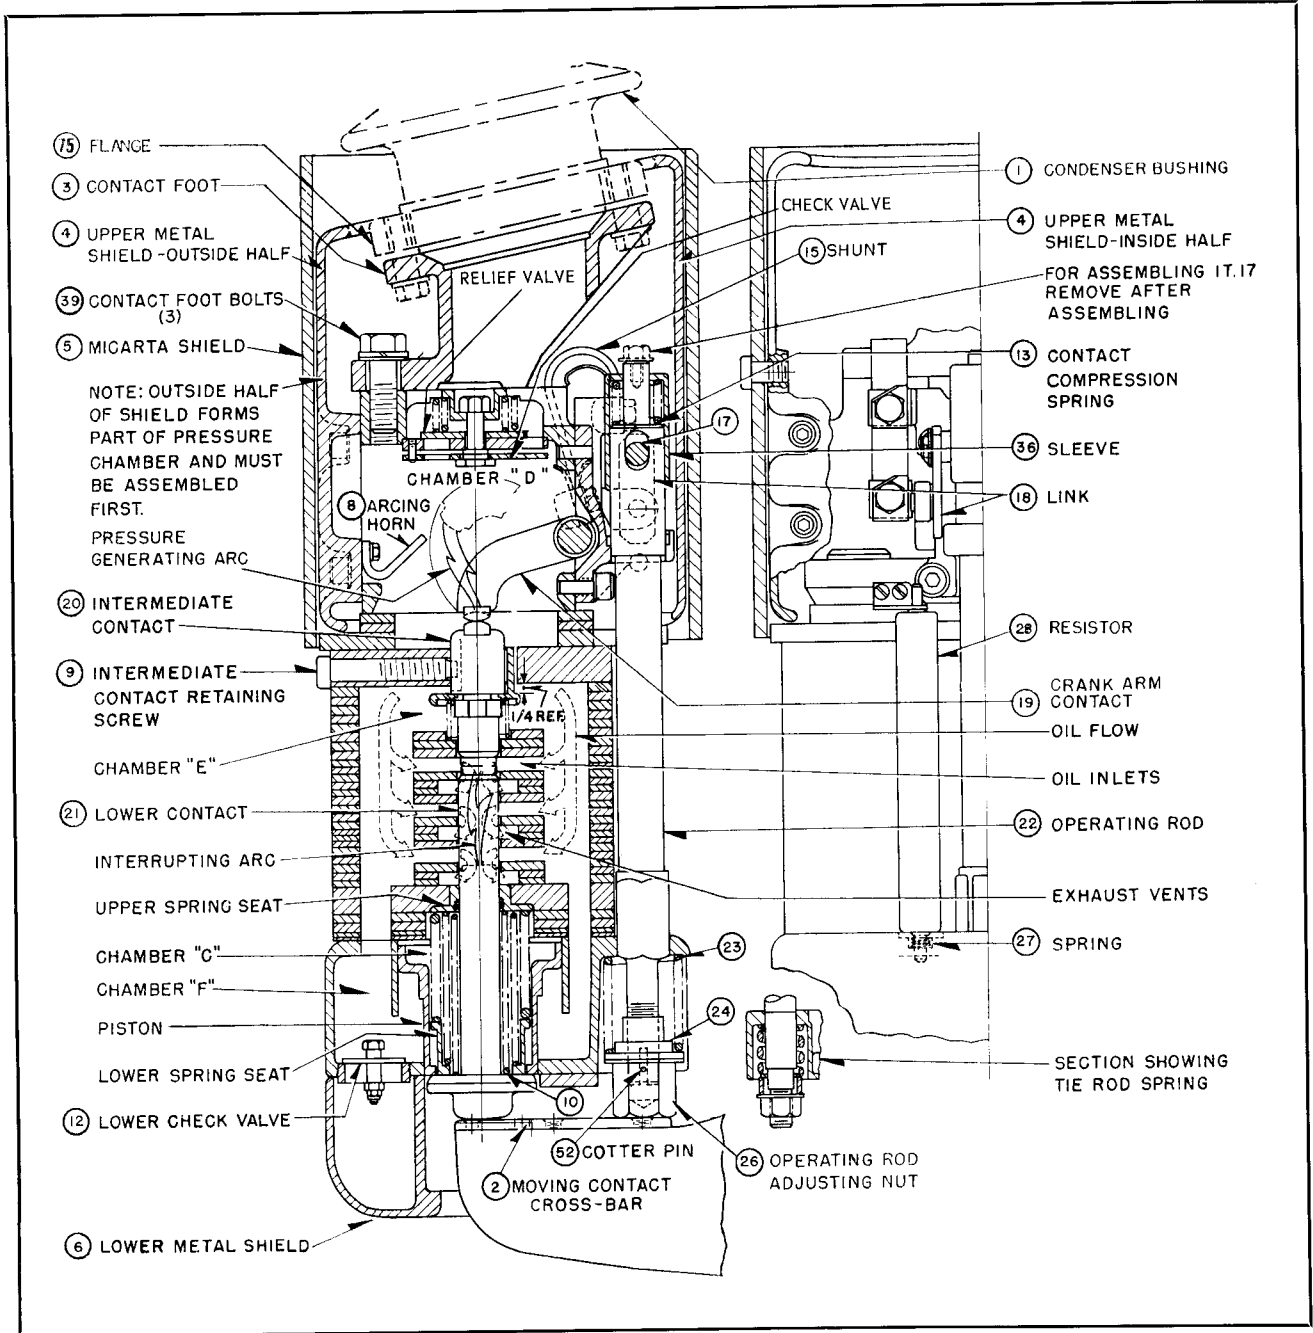

FIG. 17. Stationary Contact Assembly
The contact assembly shown in Fig. 17 consists of one interrupting unit per terminal (2 per pole) and a moving contact to bridge the two interrupters and complete the circuit.
Note: The numbers in the text refer to items shown in Fig. 17.
The oil passages may be seen on Fig. 17. The oil is forced into chamber "E" through passages (not shown) in the thick grid plate which guides the intermediate contact, and from there down either side of the grid into inlets on each side of the arc path as shown. The oil flow along the arc path de-ionizes the arc, and the arc products pass out of the grid through vents on either side of the grid. The position of the vents is staggered in height with respect to the inlets and are located 90 degrees around the grid. The name of this interrupter "Multi-Flow De-ion Grid" is readily apparent from this description—the interruption is due to the flow
Downward movement of the piston forces oil from chamber "F", up the oil passages on either side of the grid and into the inlets. Upward movement of the piston when the breaker closes tends to reduce the pressure in chamber "F" which allows refilling of oil through valve (12). Although the lower shield (6) appears to form a closed chamber in the section shown on Fig. 17, actually it is freely vented to the breaker tank. Chamber "C" on the inside of the piston also communicates freely with the tank through a passage not visible on Fig. 17, in order to permit unrestrained movement of the piston.
The mechanical operation of the contacts may best be observed by examining a closing operation. (See Fig. 17.) The moving contact (2) first picks up the lower contact (21) to establish the resistor circuit, and also picks up the lower spring seat. Further movement picks up the operating rod (22) and piston in that order. As the operating rod moves upward, the hinged crank arm contact (19) moves downward until it touches the intermediate contact (20). At this point the intermediate contact is in its extreme upper position (closed position dimension of $\frac{1}{4}$ " is zero here), and there is a gap of approximately $\frac{3}{4}$ " between the lower end of the intermediate contact and the lower contact (21). The crank arm contact continues to move downward, pushing the intermediate contact ahead of it, until the latter touches the lower contact coming up thus completing the circuit through the grid. The final $\frac{1}{4}$ " of moving contact travel reverses the movement of the intermediate and crank arm contacts to their final position as shown on Fig. 13 and at the same time compresses the contact compression spring to the $\frac{3}{8}$ " dimension at "B". This reversal of movement is possible due to the fact that the crank arm contact is not rigidly connected to the operating rod (22). Instead, it is connected through a pair of links (18) to the sleeve (36) which is spring biased to the operating rod.
On routine inspections, a fairly good idea of the condition of the contacts may be obtained by measuring the contact compression without draining the oil from the tanks. Referring to Fig. 17, connection may be made to the lift rod through the tank top by removing the small pipe cap beside the cap over the lift rod stop. A projection on the upper end of the lift rod is provided with a No. 10-32 tap which is ordinarily used for a time-travel recorder rod. However, this arrangement may also be used to measure contact compression by screwing a $\frac{3}{16}$ " diameter rod with No. 10-32 threads on one end into the top of the lift rod. Close the breaker slowly by hand until the contacts just touch as checked by "lighting out" between bushing terminals. Check the position of the $\frac{3}{16}$ " diameter